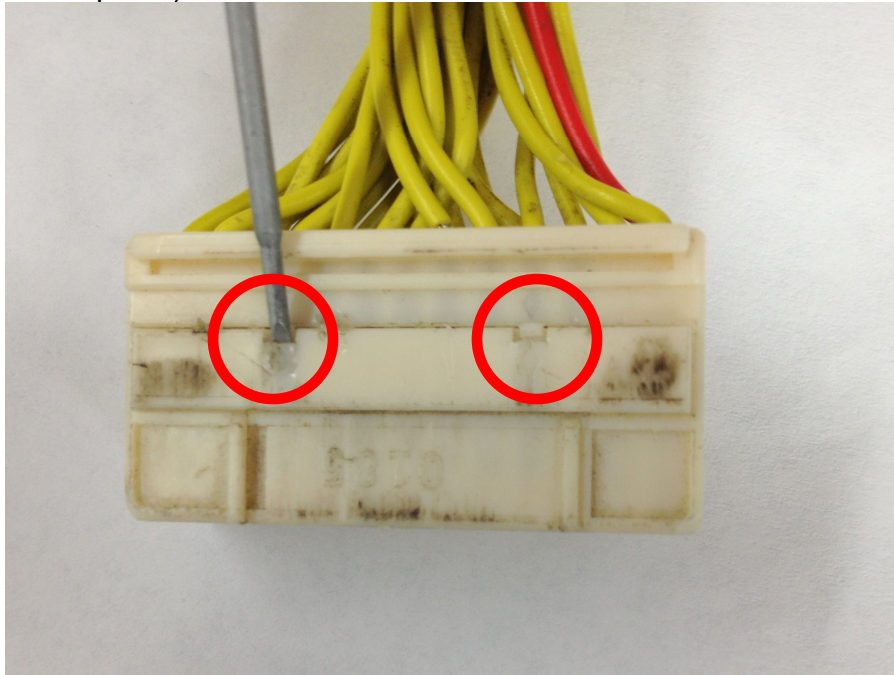

Figure 2: Pry in these areas
1. Locate a small screwdriver (a precision 1.5mm wide flathead screwdriver is recommended) and carefully pry white plastic retainer using both slots in the retainer so it disengages vertically about 1mm as shown in figures 2 and 3 (please note: some connectors may have a lock opposite to the wires in between the pins, these can be removed simply using a pair of needle nose pliers):